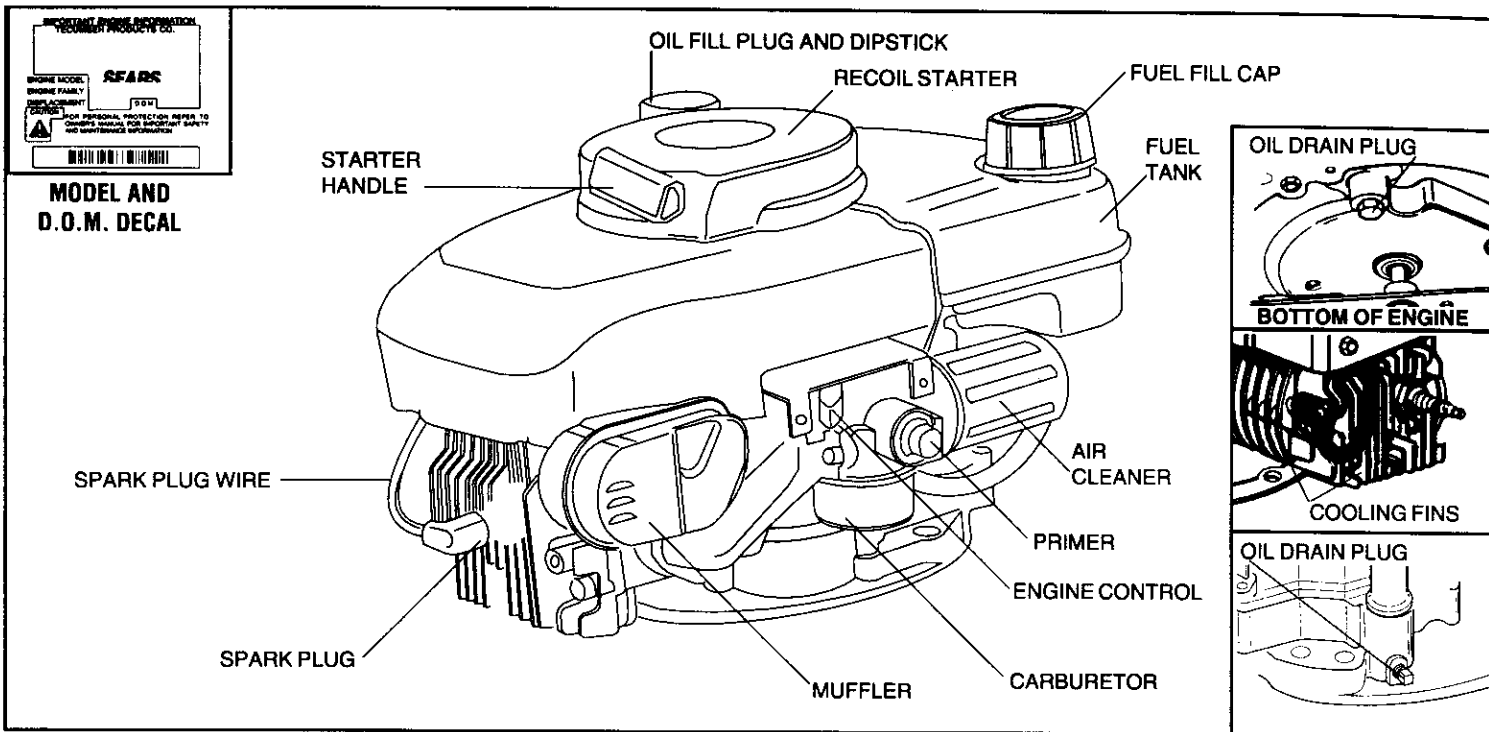

Figure 1
- Clean area around oil fill plug (see Figure 1).
- ④ **CHECK THE FOLLOWING:**
- B. Be sure spark plug wire is attached to spark plug (see Figure 1).
- ① Move ENGINE CONTROL (see Figure 1) to HI Position.
- ② **START ENGINE WITH PRIMER:**
2. The carburetor on your engine has been completely adjusted at the factory. When starting a cold engine, push primer button **firmly with your thumb 3 times**, allowing primer bulb to return completely to original position between pushes (figure 1). Below 55°F additional primes may be needed.
**ENGINE SPEED:** Engine speed is controlled by the ENGINE CONTROL see Figure 1).
- ① Move ENGINE CONTROL (see Figure 1) to STOP.
- ② **AFTER ENGINE IS STOPPED:**
C. Remove oil drain plug and oil fill plug to drain oil (see Figure 1).